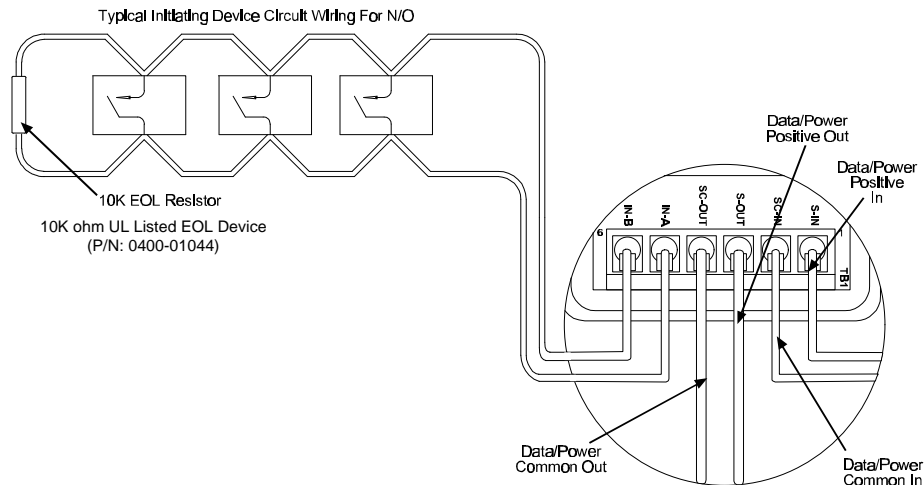
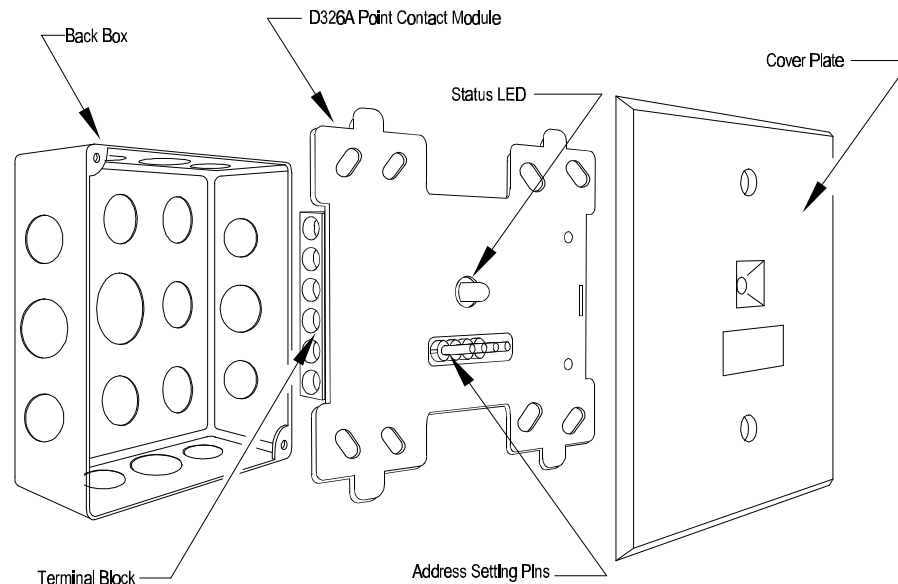

Figure 6: NFPA 72 Style B Initiating Device Circuit
Figure 7: Mounting Plate Installation for the D326A
- The D326A module mounts on a plate which attaches to a 4-inch square electrical box at least 2-1/8" deep. A cover plate conceals the address programming pins and leaves the LED visible. After wiring the module to the FACP and connecting the initiating device circuitry as shown in Figure 6, attach the Point Contact Module plate to the back box as shown in Figure 7. Install the cover plate.